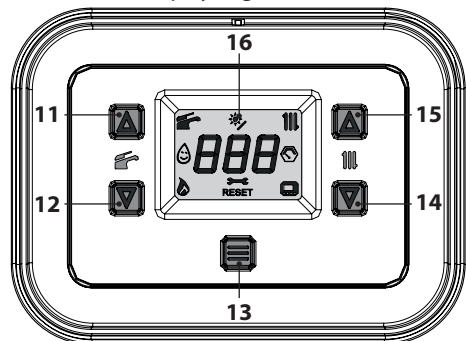
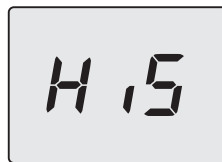

Figure 7.8
Figure 7.9
- Enter "programming mode" by pressing the 12 and 14 keys simultaneously for 5 seconds (Figure 7.8) until **HiS** (Boiler History) appears on the LCD display (Figure 7.9).
- Press the 13 key (Figure 7.8) until the **StF** (Start Full), alternating with **34** (calibration value), appears on the LCD display (Figure 7.11).
- press the 12 and 14 keys simultaneously for 5 seconds (Figure 7.8) (return to previous level).